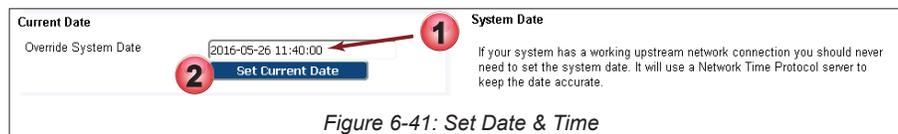

Figure 6-41: Set Date & Time
1. If it is necessary to change the time, refer to Figure 6-41 and use the format YYYY-mm-dd HH:MM:SS